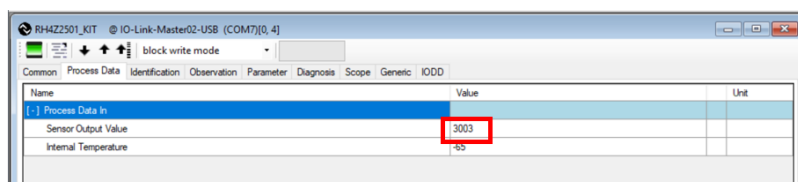

Figure 16. Read Values
- i. The read values are visible in the “Process Data” tab of the “RH4Z2501_KIT” window (see Figure 16). LED1 is switched on.